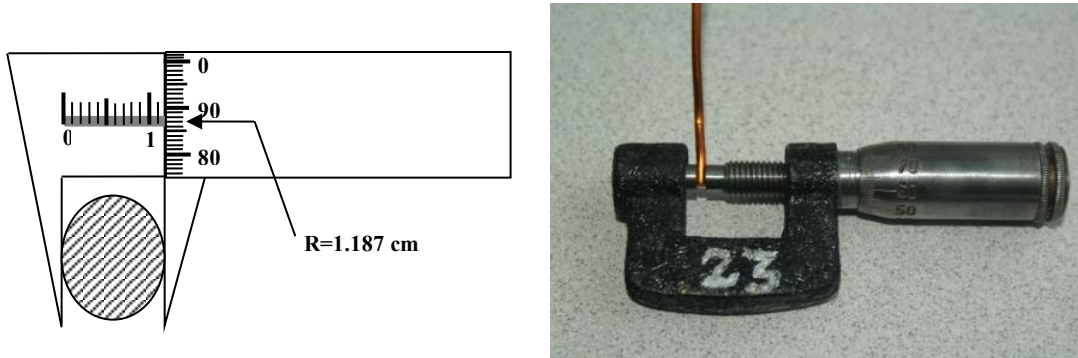

Figure 3. Micrometer.
**Micrometer** (Figure 3) is similar to the vernier calipers, but it provides an even higher precision. Instead of a movable frame with the next decimal division, the micrometer has a cylindrical scale usually divided into a hundred divisions and moves along the main ruler like a screw by turning the handle. Again the coarse value is obtained from the main ruler and the more precise part of the measurement comes from the scale around the rim of the cylindrical part. Because of its higher precision, it is used mostly to measure the thickness of wires and similar things. In Figure 3, the measurement is read as 1.187 cm. The precision of a micrometer is the smallest of its divisions, 0.01 mm in this case.